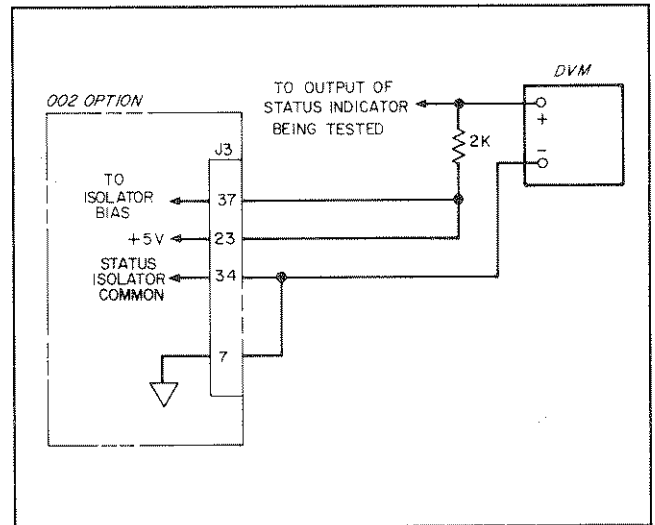

Figure A-13. Troubleshooting Status Indicators
**A-80 Troubleshooting Status Indicators.** The test set-up shown in Figure A-13 can be used to check each of the six status indicators. This set-up will temporarily defeat the isolation of the status lines. Before attempting to troubleshoot a status indicator, check for +5 V Bias for proper operation of the opto-couplers.
- a. Using test set-up, Figure A-13, connect to end of 2 k $\Omega$  resistor to J3-36.
- a. Using test set-up, Figure A-13, connect top end of 2 k $\Omega$  resistor to J3-35.
- a. Using test set-up, Figure A-13, connect top end of 2 k $\Omega$  resistor to J3-17.
- a. Using test set-up, Figure A-13, connect to end of 2 k $\Omega$  to J3-18.
- a. Using test set-up, Figure A-13, connect top end of 2 K $\Omega$  resistor to J3-19.
- d. Using test set-up, Figure A-13, connect top end of 2 k $\Omega$  resistor to J3-16.